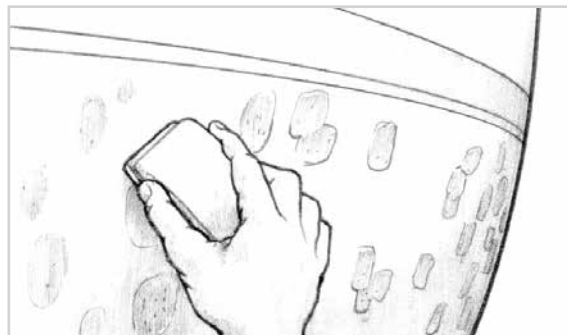

Figure 12-9 Sand the surface fair after the epoxy/filler has cured thoroughly.
7. Sand the surface fair following the procedures outlined in Section 16.4.4 (Figure 12-9). Check for fairness. Reapply fairing compound as needed, repeating the procedure until the surface is fair and smooth.